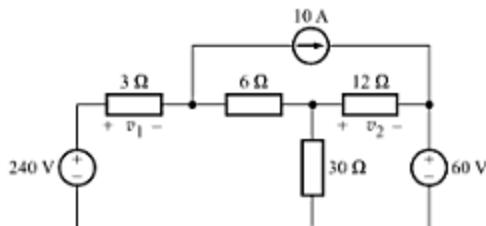

Fig. A-119
- A-86. For the circuit of Fig. A-119, (a) use nodal analysis to determine  $v_1$  and  $v_2$ , and (b) compute the power absorbed by the 6-Ω resistor.